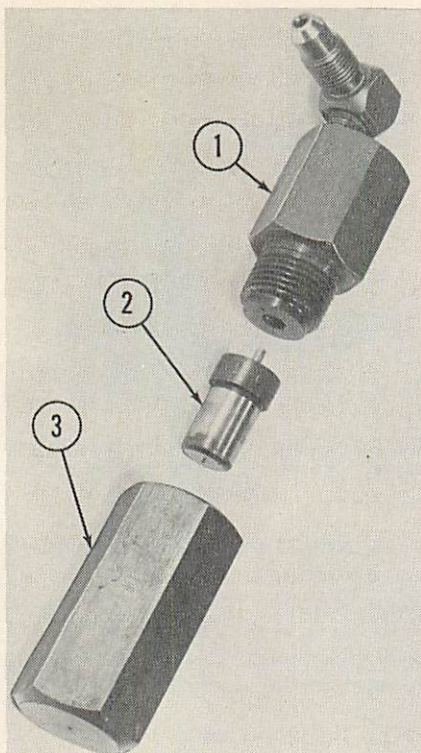

Fig. 086 — Hydraulic nozzle valve extractor for use with injector tester to remove stuck valves.
Disassemble only one injector at a time or provide a way to keep parts of one injector assembly together. To disassemble injector, proceed as follows: Clamp the squared upper part of injector holder body in a soft jawed vise, tightening vise only enough to keep injector from slipping, or use a holder fixture. Remove cap nut (1—Fig. 084), loosen lock nut (3) and back out the adjusting screw (4) until all tension is removed from spring. Then, remove the nozzle holder nut (12). Withdraw the nozzle valve (10) from nozzle body (11) with the stem end, or if valve is stuck, use the special extractor as shown in Fig. 086. **NEVER** loosen valve by tapping on exposed pintle end of valve. Remove spring retainer cap nut (5), spring seat (6), spring (7) and the seat and spindle (8). Renew spring if rusted, cracked or distorted in any way. Carefully examine the spring seats and spindle and renew if chipped, cracked or damaged in any way.